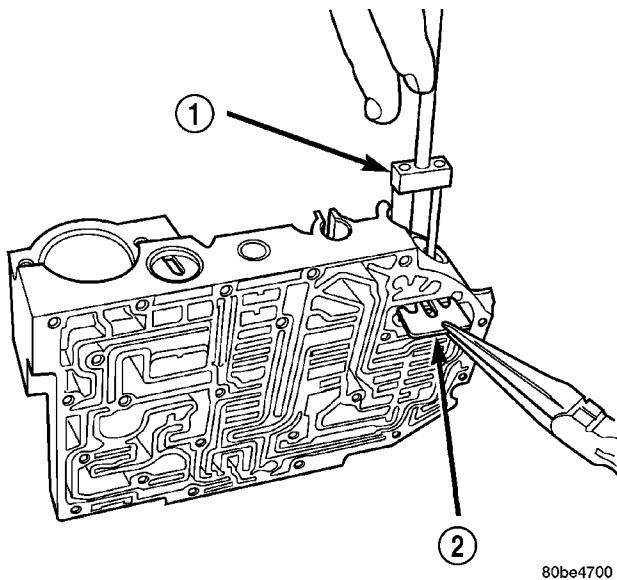

Fig. 334 Install Dual Retainer Plate using Tool 6301
(3) Install dual retainer plate using Tool 6301 (Fig. 334).